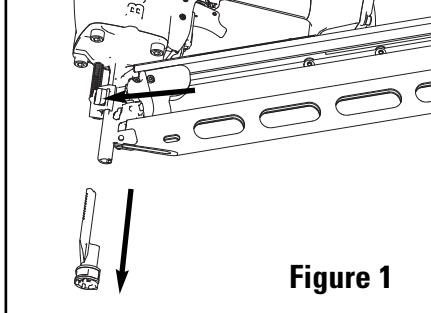

Figure 1
- Push in locking button.(See figure 1)